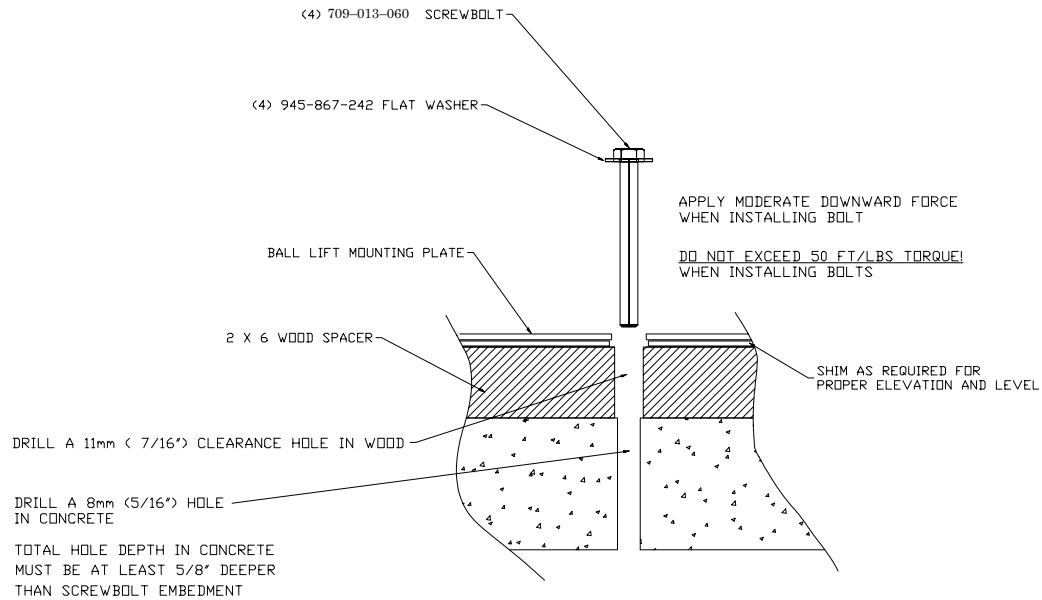

Figure 5, Ball Lift Mounting Requirements
19. Anchor the Ball Lift to the subfloor using four 8-mm x 100-mm screwbolts (709-013-060) and 7/8-inch outer diameter flat washers (948-964-142). Apply moderate downward pressure to the screwbolts and **do NOT exceed 50 ft-lbs. (68 newton-meters) torque.** (See Figure 5.)